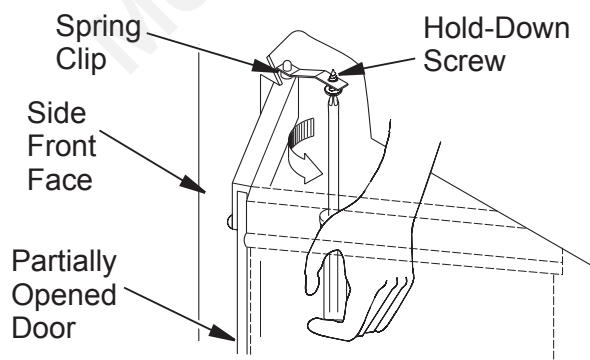

Figure 33 - Adjusting Glass Doors
- To adjust doors, slide them partially open. Using a screwdriver, loosen hold-down screws in the spring clip (see Figure 33) and pivot plate.